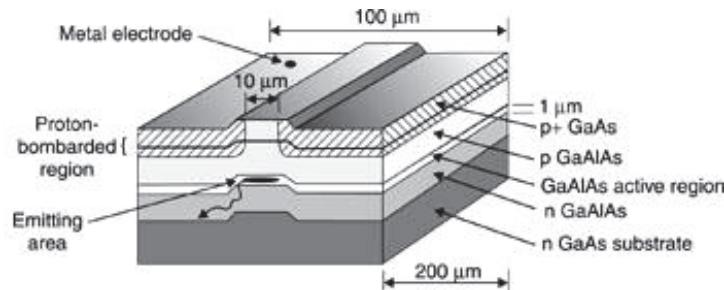

Figure 2 The epitaxial layers in LED device.
- (b). (i). Epitaxial layers are needed in semiconductor devices as shown in Figure 2. Explain THREE (3) functions of epitaxial layers.
*Lapisan epitaksi diperlukan dalam peranti semikonduktor seperti ditunjukkan dalam Rajah 2. Terangkan TIGA (3) fungsi lapisan epitaksi ini.*